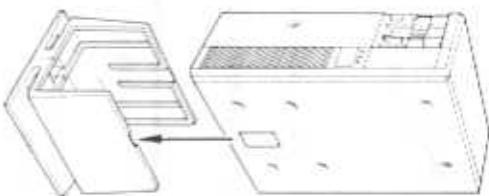

Figure 3-13. Keying System Unit to Floor Stand
7. Carefully slide the system unit into place in the floor stand (two people may be needed to lift the system unit). The raised tab on the system unit bottom cover fits into the keyed slot in the floor stand, as shown in Figure 3-13. The diskette drive should be toward the top of the system unit as it sits in the stand.